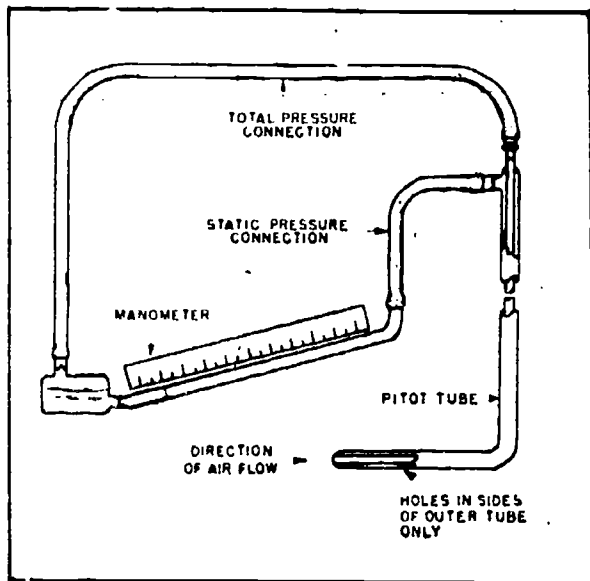

Fig 1-13. Pitot tube.
c. Pitot tube (fig 1-13). The pitot tube, used in conjunction with a slant manometer, will determine the total velocity pressure in a duct system in inches of water. The pitot tube is constructed of two tubes, one enclosed in the other. The end of the tube is placed in the air passage so that the opening in the end of one tube will pick up the airflow and measure the total pressure. The other opening consists of small holes along the side of the tube (arranged so the air will flow past them) and measures the static pressure. When these two pressures are connected to the slant manometer, the difference between them will be the velocity in inches of water. To insure correct velocity readings in a duct, several readings should be taken in different places in the duct and the readings averaged.